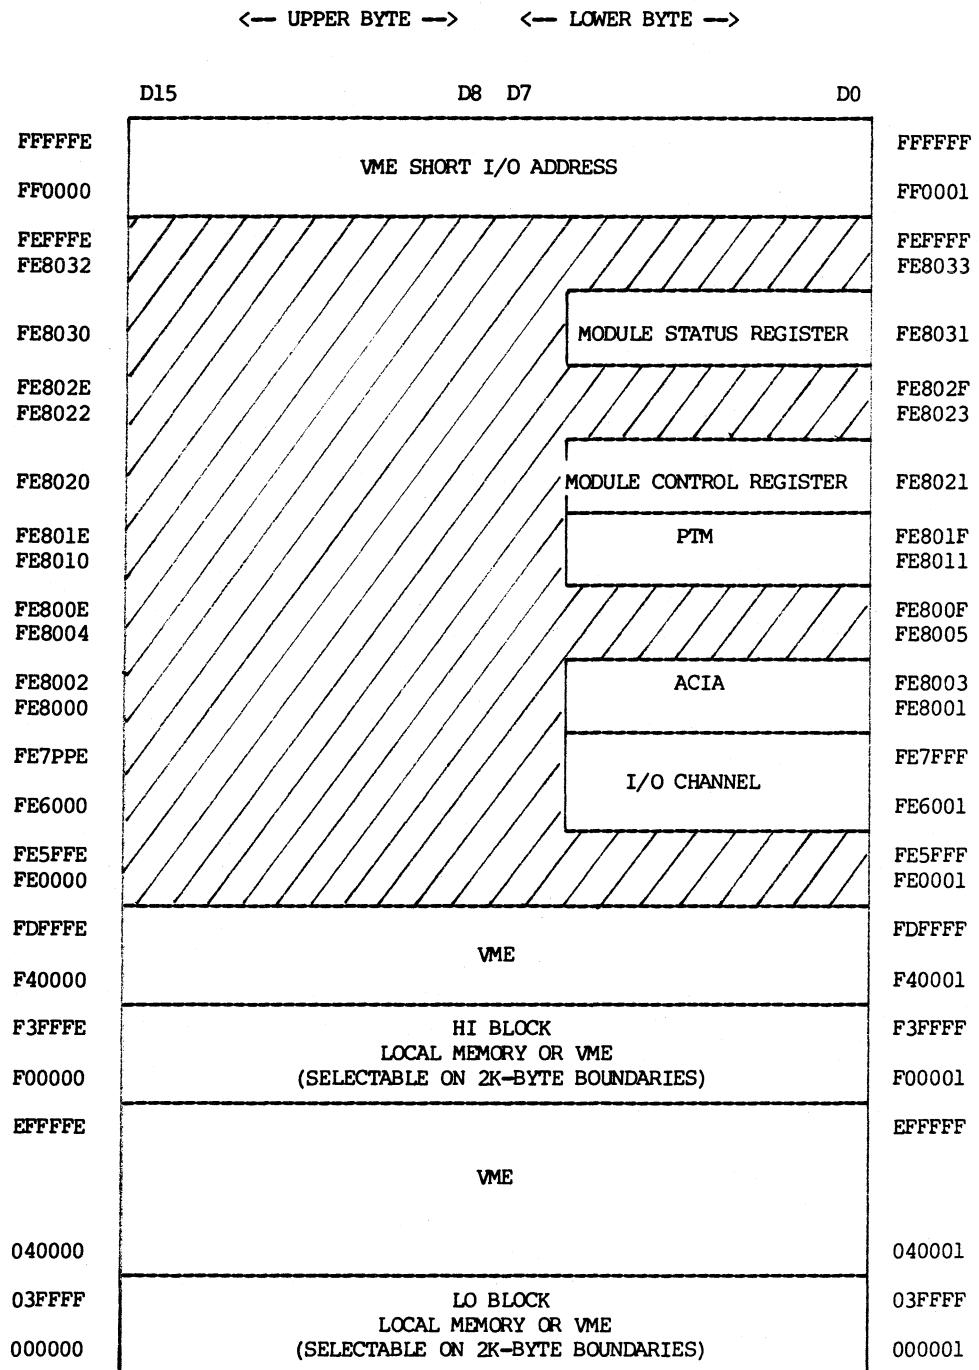

FIGURE 4-3. VME110 Memory Map
- Normal - the normal cycles are further decoded into the following: (refer to memory map Figure 4-3)